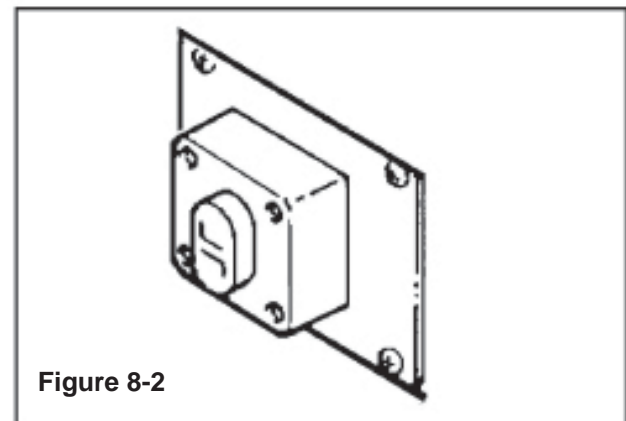

Figure 8-2
- Turn Main Switch to ON Position (**Figure 8-2**).
- The main start switch "ON" (**Figure 8-2**)